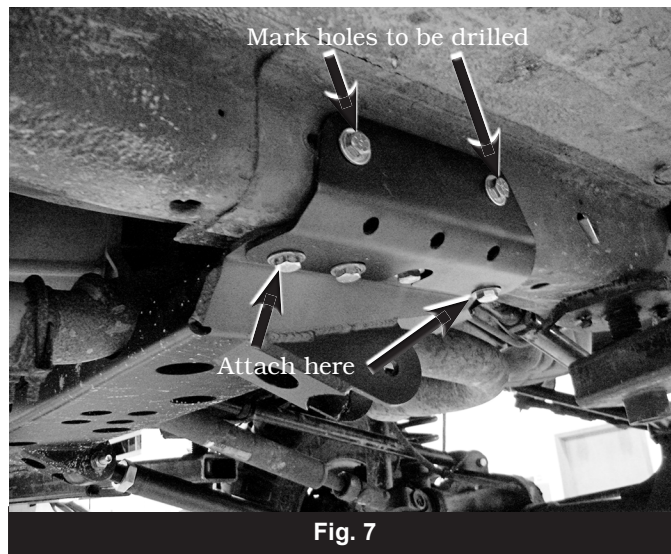

Fig. 7
17. Attach the side support plate so that they "sandwich" the crossmember between themselves and the frame (Fig 7). Attach the brackets with 10mm x 40mm bolts and 3/8" oversized washers (BP 715) in the forward-most and rearward-most holes in the side plates/crossmember. Ensure that the side plates are flush against the side of the frame and snug hardware.